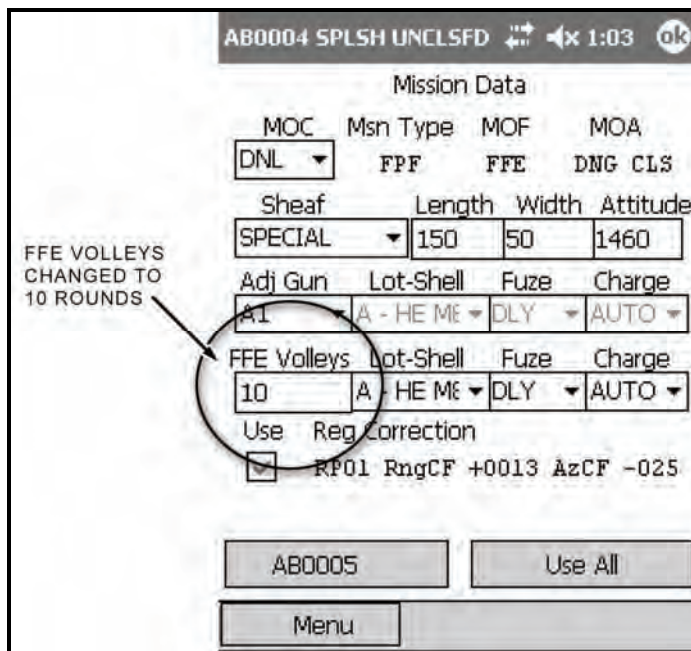

Figure 18-66. Final Protective Fire: changing the fire for effect volleys.
(61) Select Mission Data.
(62) The Mission Data screen displays (Figure 18-66).